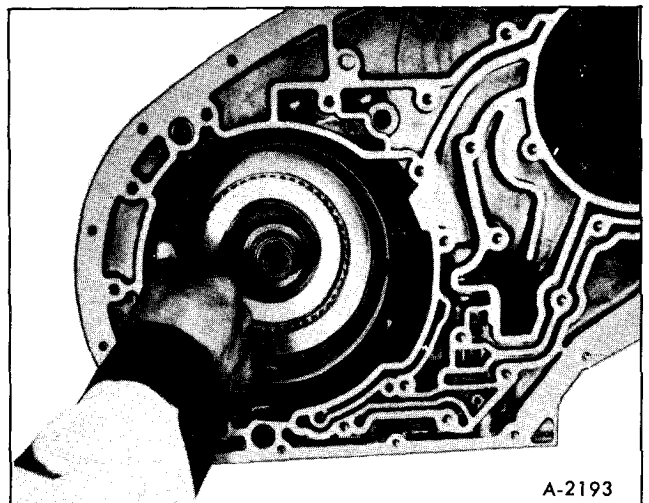

Figure 76–Front Band Installation
2. Install front band with band anchor hole over band anchor pin, and apply lug facing servo hole, Figure 76.